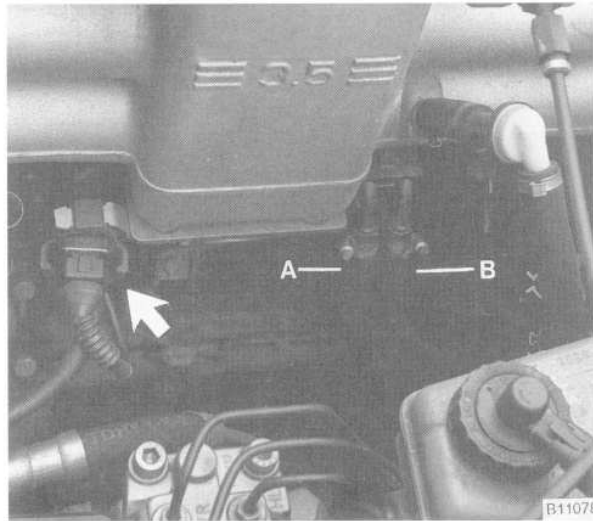

Fig. 38. Fuel return (A) and supply (B) lines beneath intake manifold. Also disconnect connector from EVAP canister purge valve.
14. Working beneath the intake manifold, label and then disconnect the fuel supply and fuel return lines. Disconnect the harness connector from the charcoal (EVAP) canister purge valve. See Fig. 38.